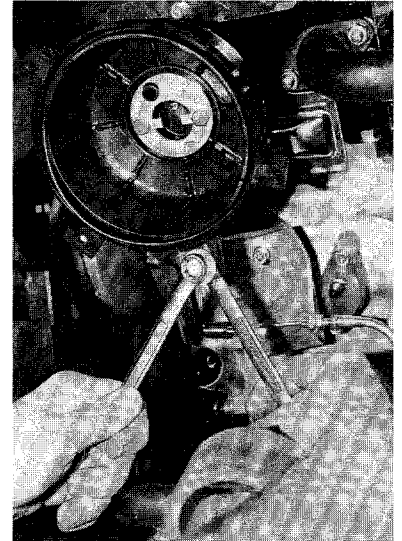

Figure 6-8
13. Remove bolt and nut from lower air filter housing brace (**Figure 6-8**).